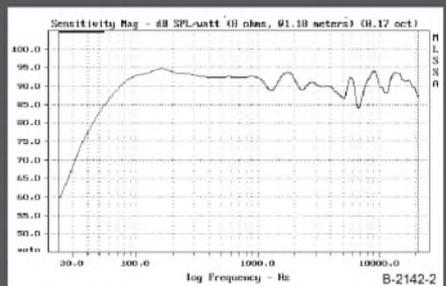

FIGURE 2: Adire full-range frequency response.
*Figure 2* shows the full-range frequency re-
Most of the response variation seen in Fig. 2 persists in the decay response. Thus the high-frequency character of the HE10.1 is retained in the decay response. The low-frequency